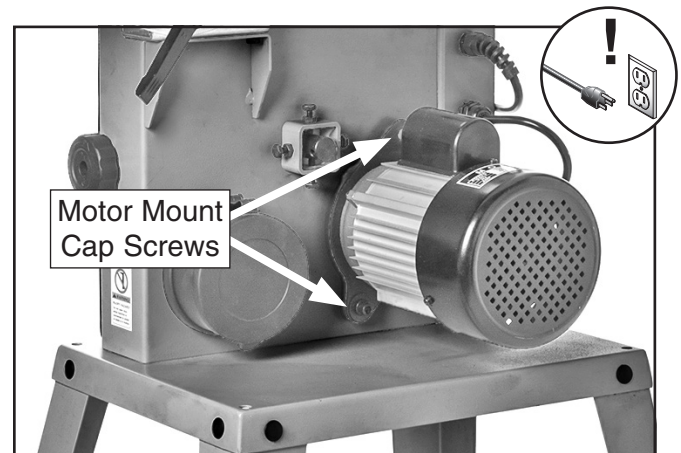

Figure 67. Location of motor mount cap screws used for adjusting belt tension.
2. Loosen motor mount cap screws shown in **Figure 67**.
3. Loosen motor mount cap screws (see **Figure 67** on **Page 51**).